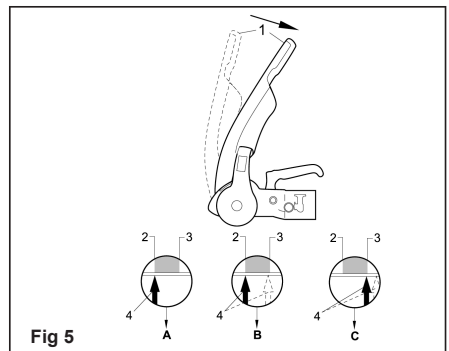

Fig 5
- 2) Open Stabiliser lever (Fig. 5/Item 1).
- 4) If the arrow on the arm (Fig. 5/Item 4) is before or on the marked area (Fig. 5/Item 2) the friction pads are still as new (See A)